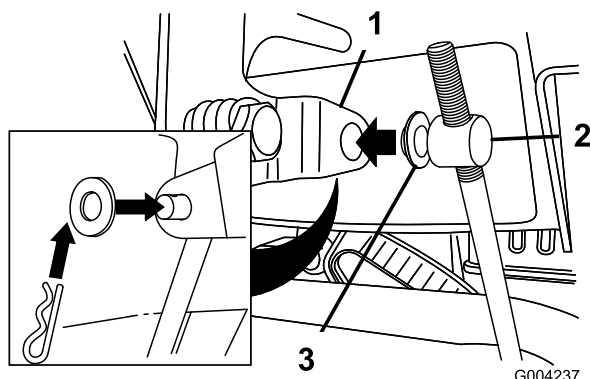

Figure 6
3. Remove the hairpin cotter and the outer washer from the trunnion on the upper end of the speed control rod (Figure 6).
Note: To make installation easier, leave the flat washer on the trunnion (Figure 6).
6. Lift up on the speed control rod and insert the trunnion into the hole in the speed selector lever (Figure 6).